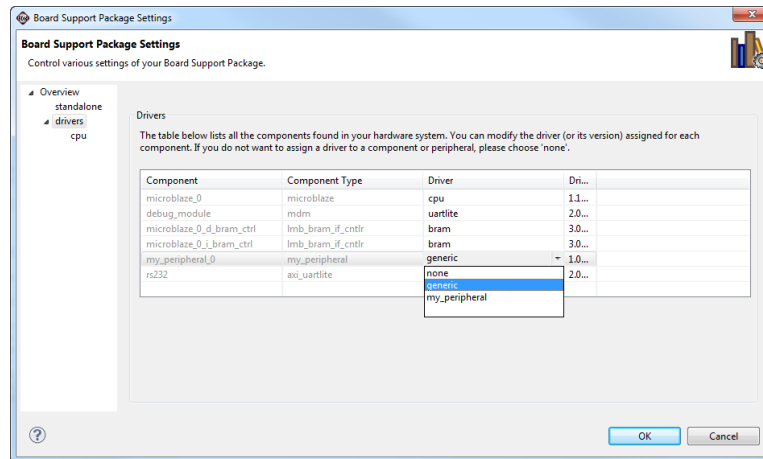

Figure 42: SDK, Pick SW Driver for Custom Peripheral
7. In Driver Table for component *my\_peripheral* instead Generic pick *my\_peripheral* Driver Figure 42.